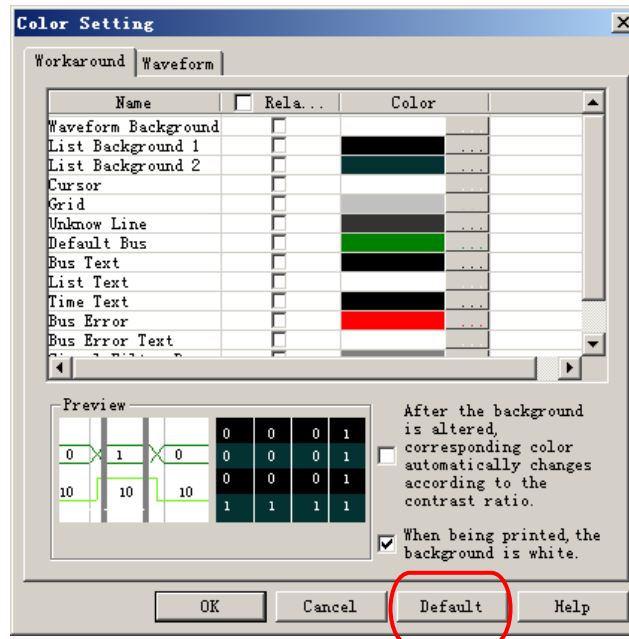

Fig. 6-6 – Restore Color Defaults
**A:** Yes, there is. Click **Tools** from the menu bar, and select **Color Setting**; click **Defaults**. However, this restores everything in this window. You must make a further adjustment if the color setting is the only thing you want to restore. See Fig. 6-6.